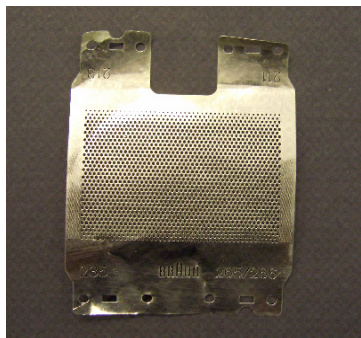

Fig. 3: A shaver replacement foil
6. Repeat steps (1) to (5) to prepare another half compartment.
7. Cut two rectangular pieces of filter paper to fit the shaver foils (Fig. 3).